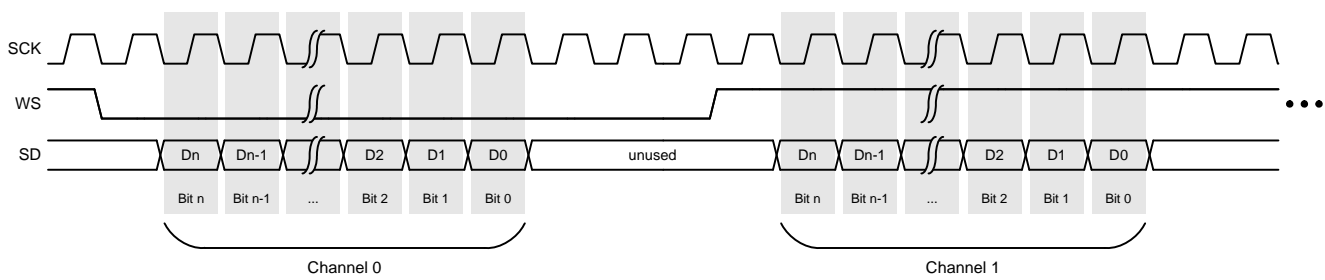

Figure 23.2. I²S Protocol Transaction
The I²S protocol uses three signals: clock (SCK), word select or frame sync (WS), and data (SD). Figure 23.2 shows a typical I²S transaction.